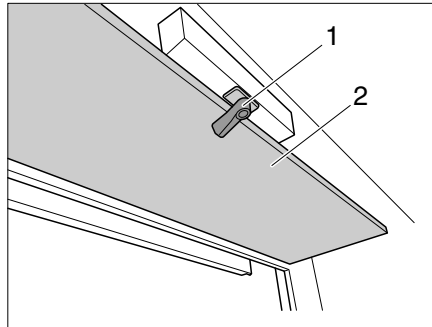

Fig. 153 Flap for the crank
- Release the locking mechanism (Fig. 153,1) and fold the flap (Fig. 153,2) downwards.